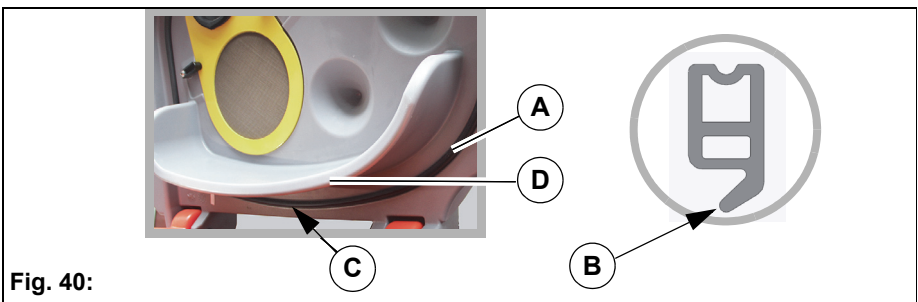

Fig. 40:
Check the function of the seal in the tank cap **Fig. 40-A** daily and replace it if damaged.
- pay attention to correct installation position – sealing lip **Fig. 40-B** must be facing outwards,
- ensure that the disconnection point of the seal finishes edge to edge – the disconnection point **Fig. 40-C** must be below the dripping edge of the cover **Fig. 40-D**,